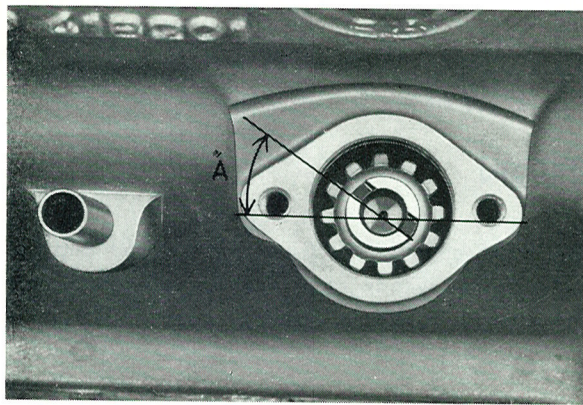

Fig. 2-58. Distributor drive position
When No. 1 cylinder is at top dead centre, fit the oil pump drive and distributor. The small part at the groove is turned obliquely upwards-backwards and the groove set at an angle of 35° to the longitudinal axis of the engine, see Fig. 2-58 (A). Make sure that the shaft goes down into its groove in the pump shaft.